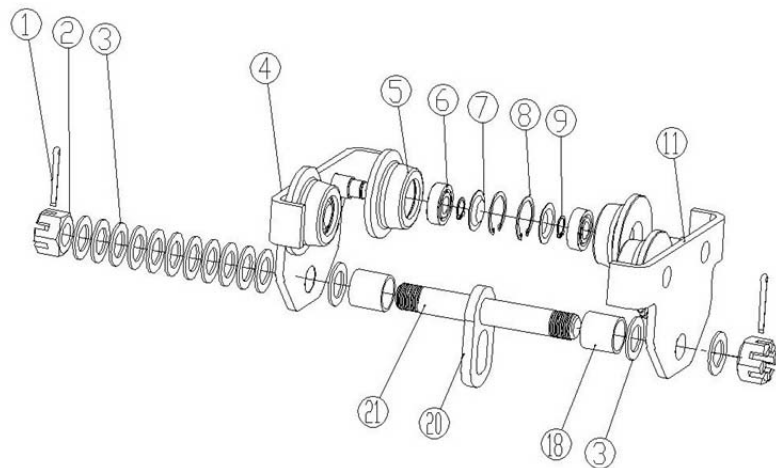

Figure 2
- Distribute the needed spacers equally between the sides. Place them in between the fixing spacer (Part 18, Fig. 2 & 4) and the side plates (Part 4 & 11, Fig. 2 & 4).
- Put the remainder of the spacers on the exterior of the side plates (Part 3, Fig. 2 & 4).
- Make sure the load point on the cross shaft (Part 20, Fig. 2 & 4) is centred with the centre of the rail.